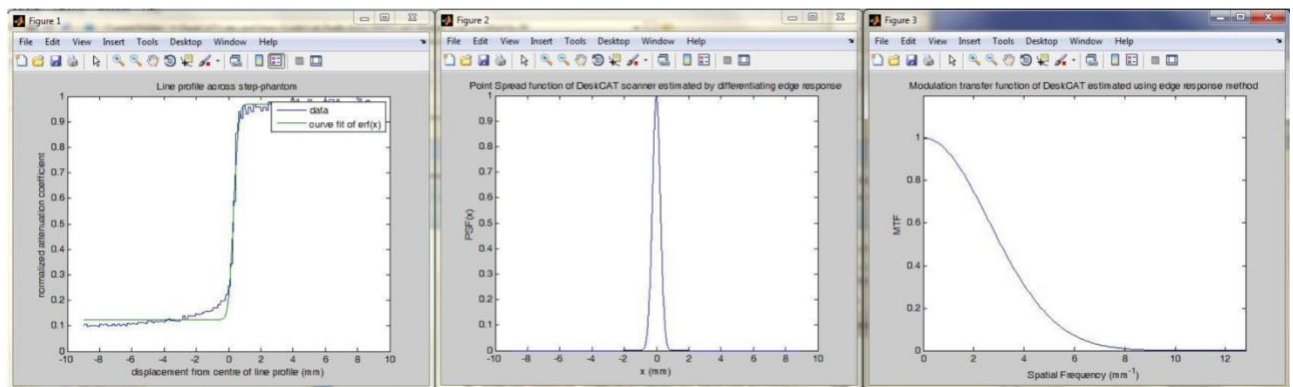

Figure 7: Example output from `Analyze_Edge.m`
- Plots of ERF, PSF and MTF will appear for the selected profile (Figure 7).